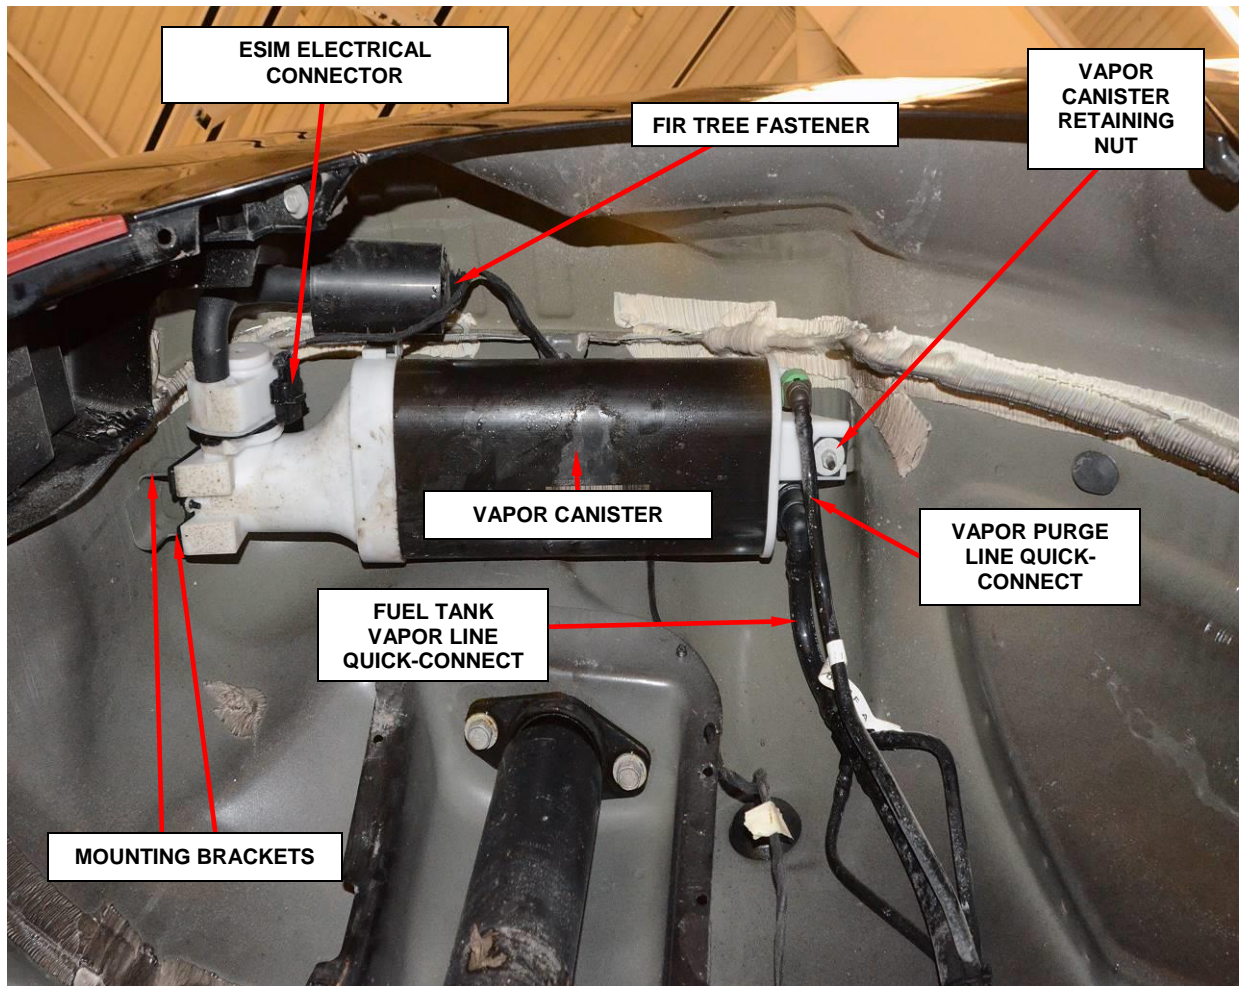

Figure 4 – Evaporative Emissions Canister
7. Disconnect the electrical connector from the Evaporative System Integrity Module (ESIM) and disconnect the fir tree fastener (Figure 4).
8. Disconnect the fuel tank vapor line quick-connect fitting from the vapor canister and position aside (Figure 4).
9. Disconnect the vapor purge line quick-connect fitting from the vapor canister and position aside (Figure 4).
10. Remove the vapor canister retaining nut (Figure 4).
12. Slide the vapor canister forward off of rear mounting brackets (Figure 4).
20. Position the **NEW** vapor canister, ESIM, and fresh air filter onto the vehicle as an assembly (Figure 4).
21. Slide the vapor canister rubber isolators onto the mounting bracket (Figure 4).
22. Raise the front of the **NEW** vapor canister onto the mounting stud (Figure 4).
23. Install the vapor canister retaining nut and tighten securely (Figure 4).
24. Connect the vapor purge line quick-connect fitting to the EVAP canister (Figure 4).
25. Connect the fuel tank vapor line quick-connect fitting to the EVAP canister (Figure 4).
26. Connect the ESIM electrical connector and the fir tree fastener (Figure 4).